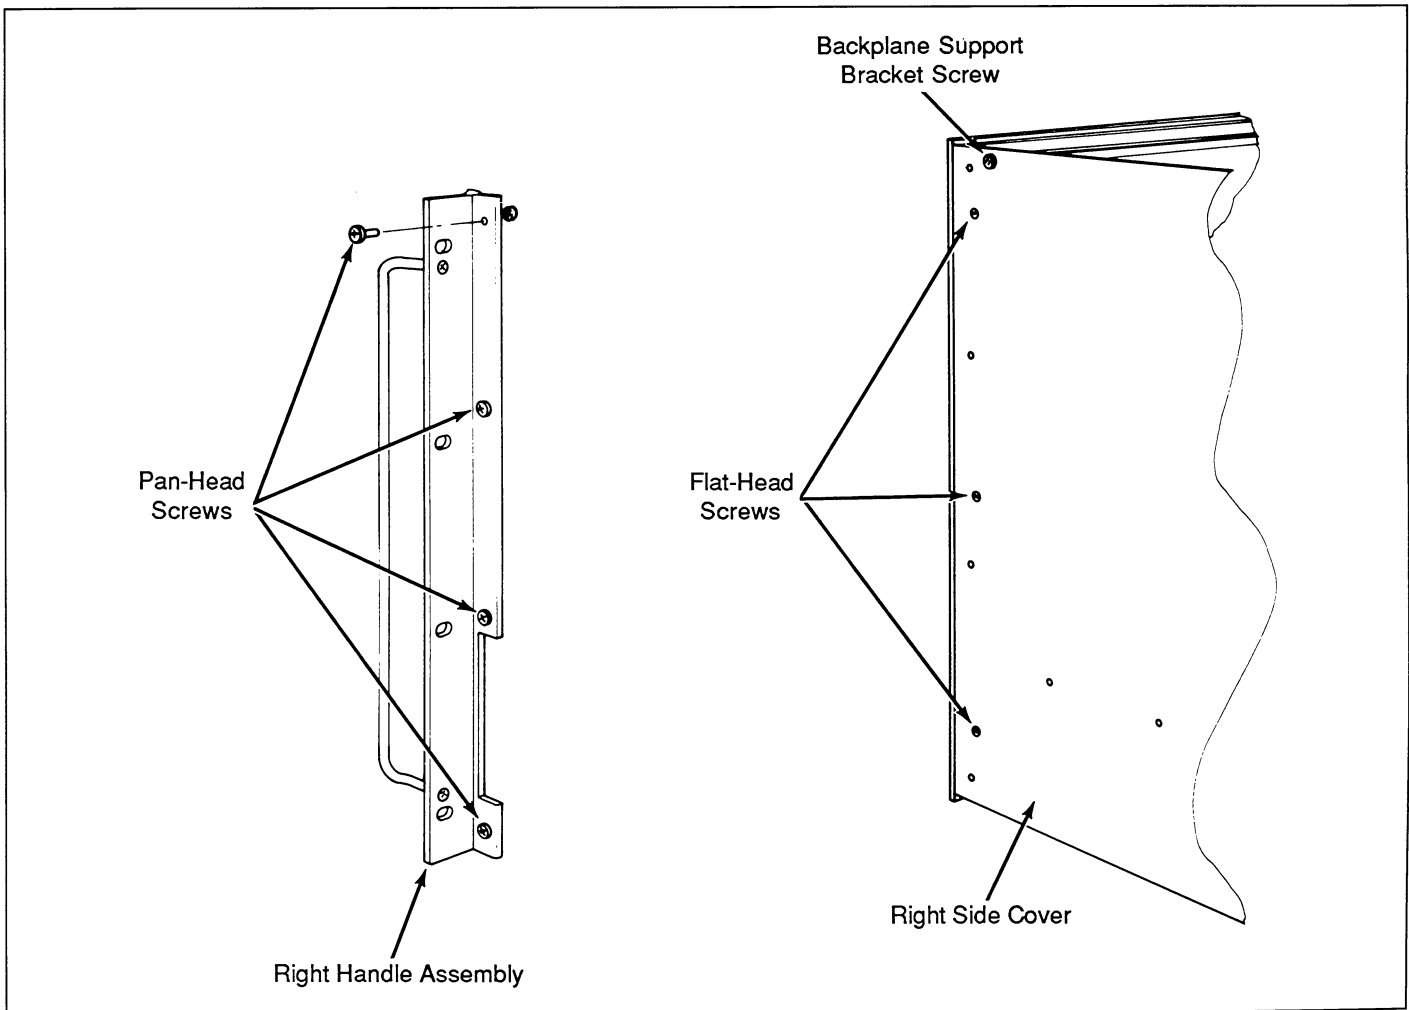

Figure 6-6. Right Side View of Disassembly
- B. Remove the four pan-head screws that secure the right and left handle mounting brackets to the side covers. Figure 6-6 shows a view of the right side.